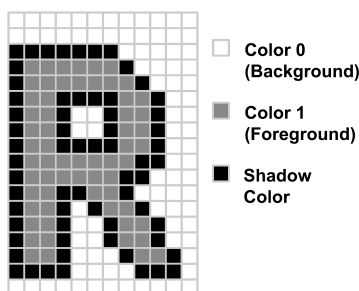

Figure 21. Bordering
4. **Bordering**—A border can be added to the two-color characters. When a character is bordered, a border pixel is added at every horizontal, vertical or diagonal transition between color 0 and color 1. See Figure 21. The color of the border is determined by the value in the color palette register EF3 (normally black).